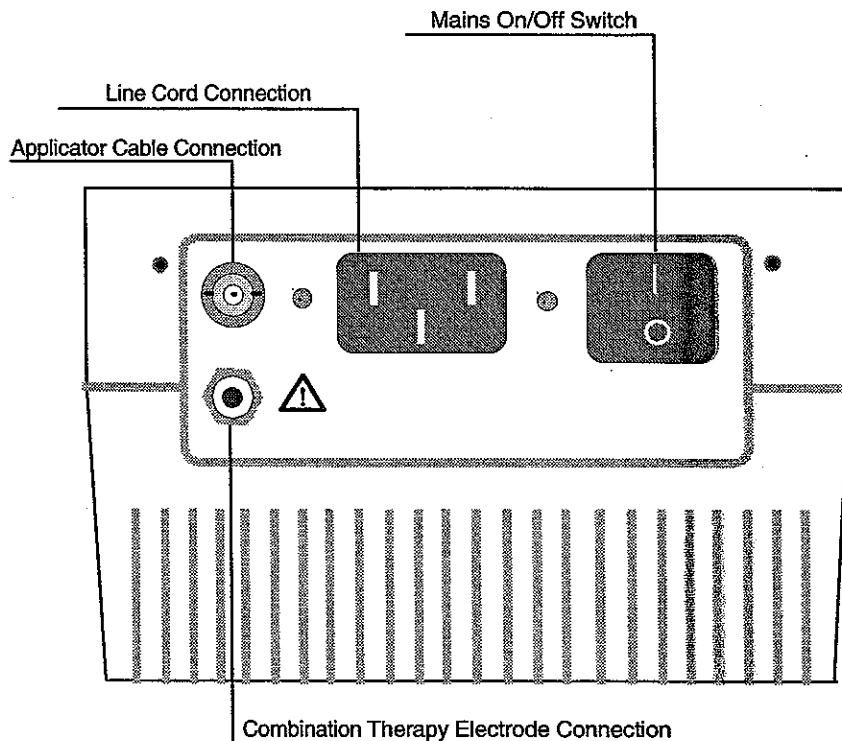

Figure 4.1—Sonicator 730, Bottom view—Main Power Switch and Line Cord, Applicator Cable and Combination Therapy Connections
1. Connect the line cord to the bottom of the Sonicator 730. (See Figure 4.1)
2. Push the applicator cable connector into the round BNC jack located on the bottom of the Sonicator 730 and rotate the connector ¼ turn clockwise. (See Figure 4.1) Connect applicator to universal applicator cable using the BNC connector by lining up the pegs, pushing in all the way and rotating ¼ turn clockwise. Make sure all connections are dry prior to connection.